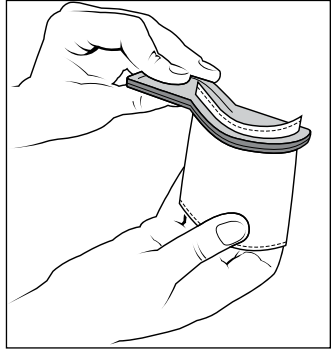

Figure 3
- 2) Line up two of the rotor blade supports. Carefully work one of the rotor blades so a side with the dotted line slides into the precut slots on one side of the rotor blade supports (Figure 3).